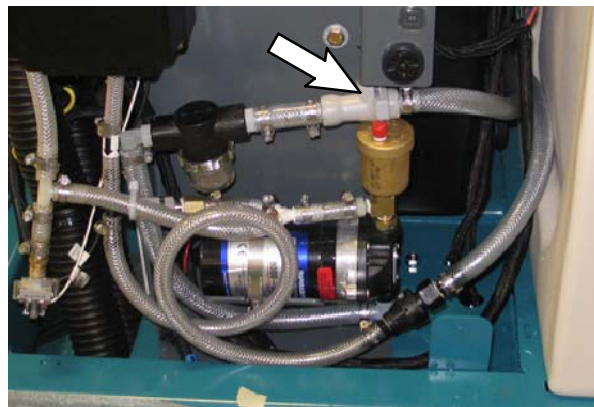

FIG. 18
30. Connect solution supply hose to the *ec-H2O* assembly inlet hose. Refer to Fig. 18.